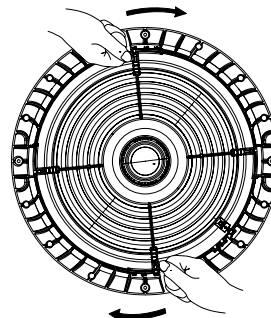

Fig. 5
3. Rotate lens by grabbing lens handles with both hands (Fig. 5).